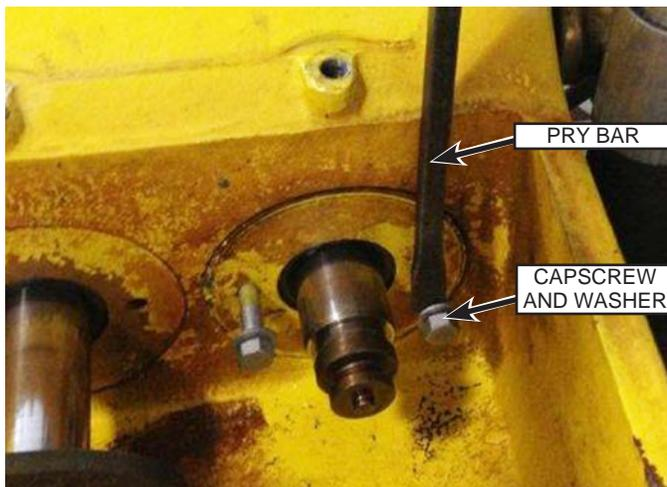

Fig. 126: Seal Plate Removal
- Install two 1/2"-13 UNC capscrews (Fig. 126) into the seal plate.
- It may be necessary to use a long pry bar with the power frame as a lever to pry the back of the bolts. The seal plate should pop out from its bore. Remove the plate as shown in Fig. 126.